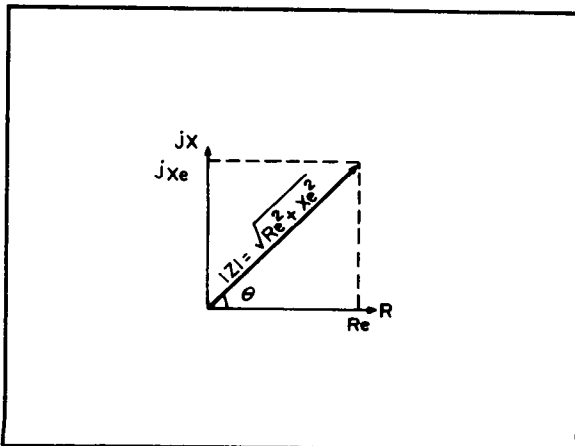

Figure 3-17. Impedance Vector Representation.
3-59. The impedance of a component can be graphically represented in vector form as shown in Figure 3-17. In such representation, the effective resistance and effective reactance correspond to the projections of the impedance vector  $|Z| \angle \theta$ ; that is, the real (R) axis and the imaginary (jX) axis, respectively, as shown below: